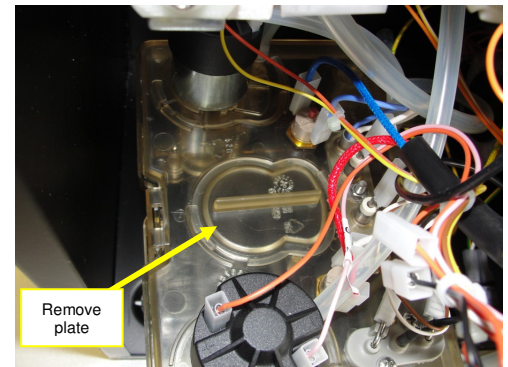

Fig. 3
- 8) Remove the blanking plate in the centre pump position from the boiler lid, by turning clockwise a quarter of a turn to release, as shown in fig. 3